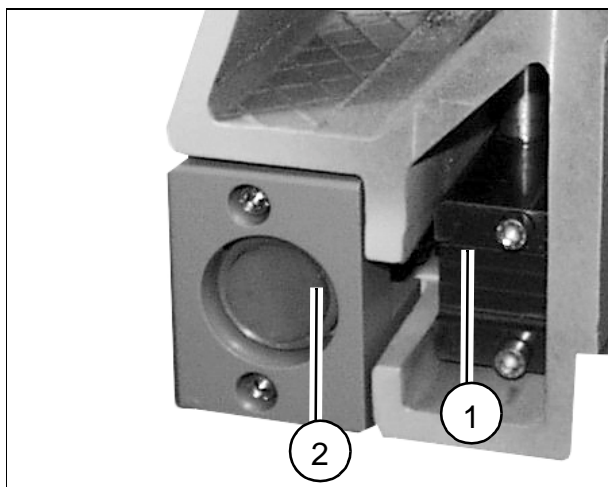
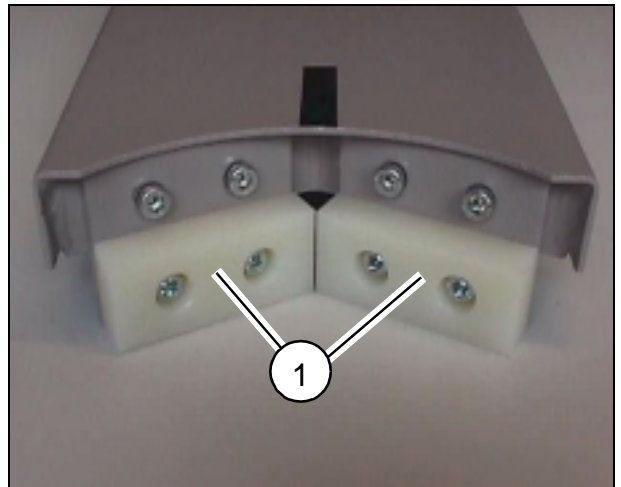

Fig. 3
Fig. 10
- Unscrew the drive of the lift unit (1/Fig. 3).
- Unscrew the lift unit (2/Fig. 3). The floating shaft (8/Fig. 10) must be pushed upwards to remove it.
Fit the supplied stop plates (1/ Fig. 10) with 2 screws each (M6 x 12) and lock washers according to the picture.